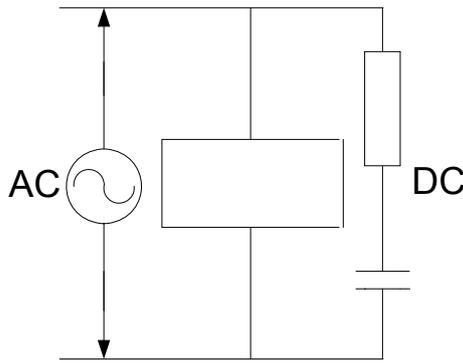
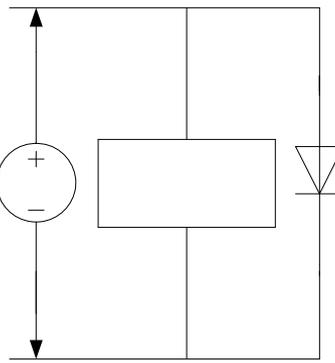
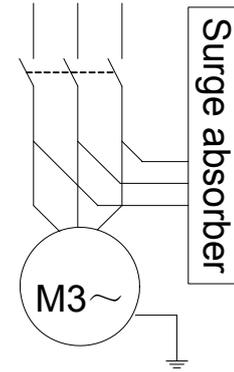

Fig. 1-16-1
Fig. 1-16-2
Fig. 1-16-3
① CNC should be depated from the interference equipment (For example, frequency-transformer, AC contactor, static generator, high-pressure generator and the section equipment of the dynamic circuit, etc.)
② Supply the CNC via the insulation transformer; the machine tool with CNC should be grounded; and the CNC and drive unit should be connected the separated grounding cable from the grounding point.
③ Barrage jamming: Connect the RC circuit (Refer to Fig. 1-16-1) in parallel at both AC coil ports; There is no alternation other than closing to the sensitive loading when RC circuit is installed; reversely perform the fly-wheel diode (Refer to the Fig. 1-16-2) in parallel both ports of the DC coil; Connect the surge absorber (Refer to the Fig. 1-16-3) in parallel at the winding port of AC motor